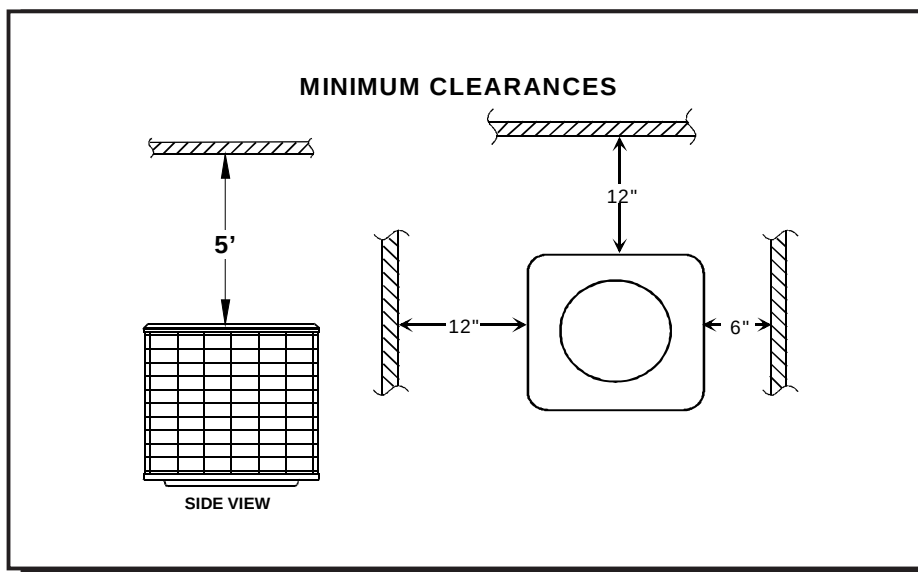

Figure 1
- In accordance with the minimum clearances described in Figure 1.
This unit is for outdoor installation only. It cannot be completely enclosed. Refer to Figure 1 for clearances from the sides of the unit to full walls and other objects.
If installing two or more units at the same location, allow at least 24 inches between the units when using the 6"-12"-12" guidelines in Figure 1. The space between two units may be reduced to 12" if the clearances in Figure 1 are increased to 12"-24"-24".